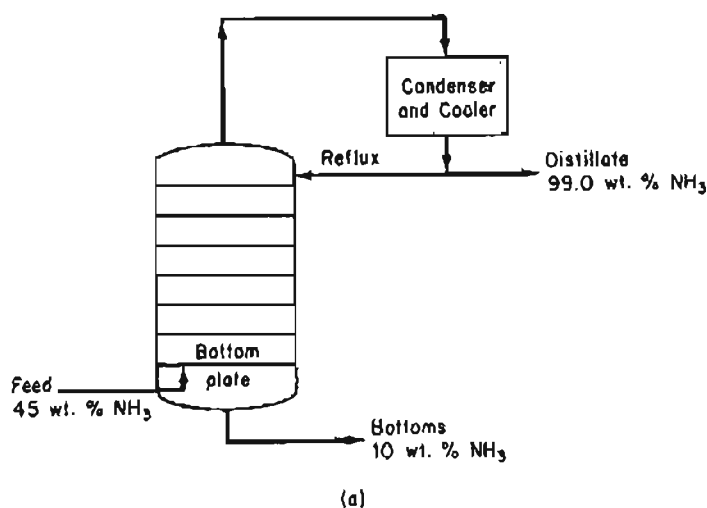

Figure P30.8a
- A vapor mixture containing 45 weight percent ammonia, the balance being water, and having an enthalpy of 1125 Btu per pound, is to be fractionated in a bubble-cap column operating at a pressure of 250 psia. The column is to be equipped with a total condenser. The distillate product is to contain 99.0 weight percent ammonia and the bottom product is to contain 10.0 weight percent ammonia. The distillate and the reflux leaving the condenser will have an enthalpy of 18 Btu/lb (Figure P30.8a).